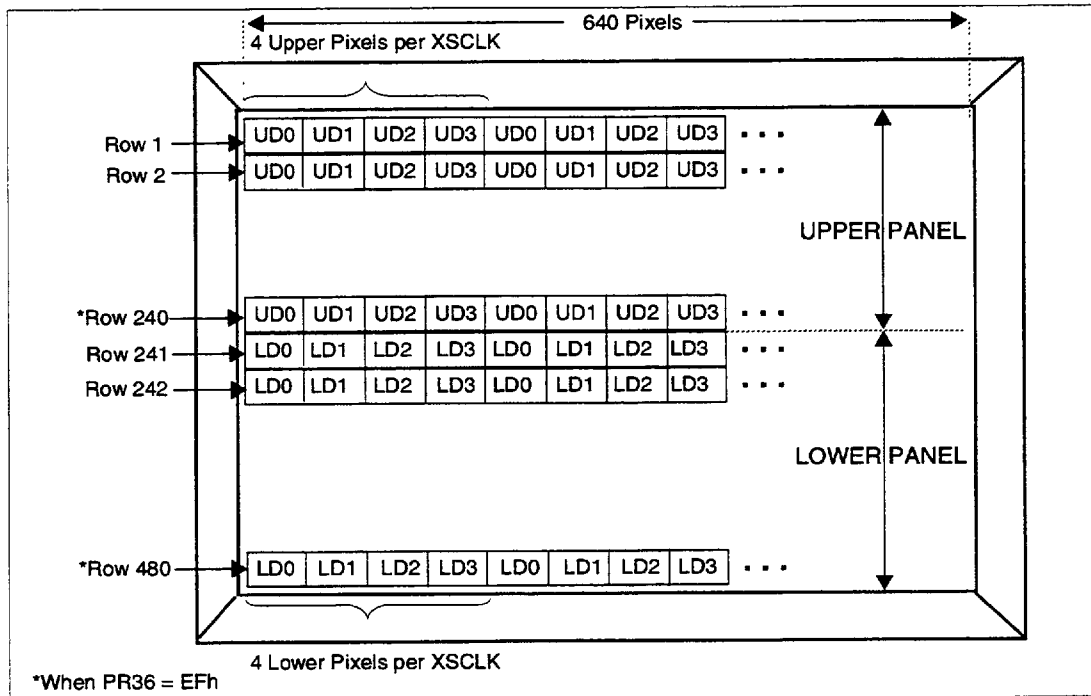

FIGURE 26-6. MONOCHROME DUAL PANEL LCD DATA ORGANIZATION
- Monochrome Dual Panel LCD Data Organization (Figure 26-6)